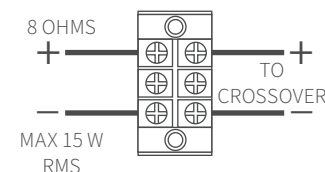

FIGURE 11:
3. Attach the two wires to the terminal block screws as indicated (see figure 11). Spade lugs are provided that can be attached to the speaker wire, if desired.